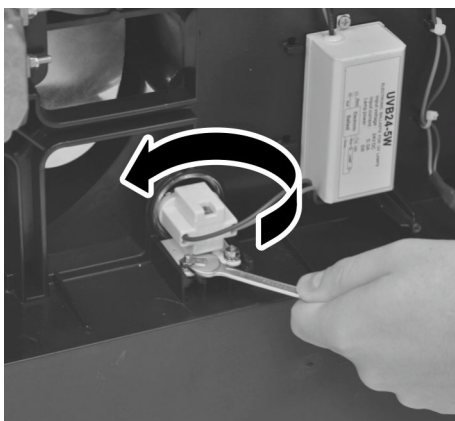

Fig. 33: Loosening the nuts of the lamp holder
3. ➤ Loosen the nuts of the lamp holder with a wrench SW 7 (Fig. 33).